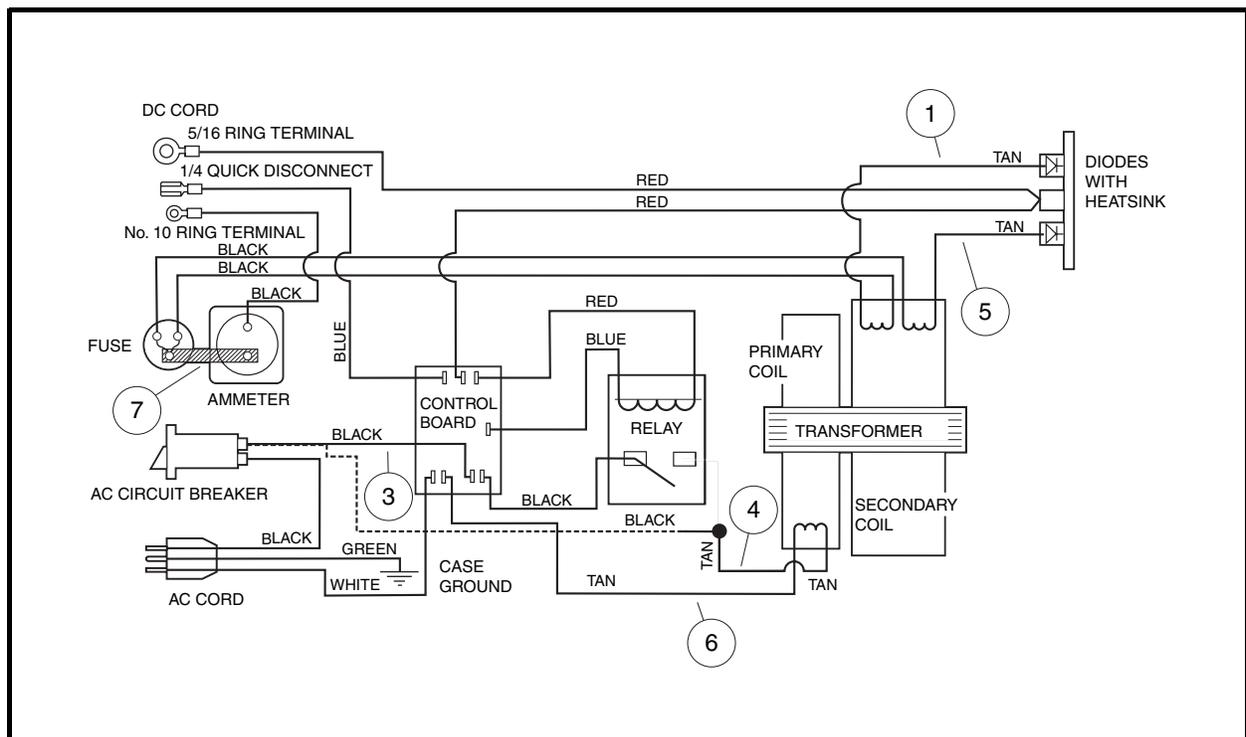

Figure 4-22 PowerDrive Onboard Charger Wiring Diagram (Relay Bypassed)
- 4.1. To bypass the relay, remove the black wire (3) from the AC circuit breaker and disconnect the black wire (4) from the relay. Connect the black wire (4) to the AC circuit breaker (**Figure 4-22, Page 4-29**). **See following DANGER.**